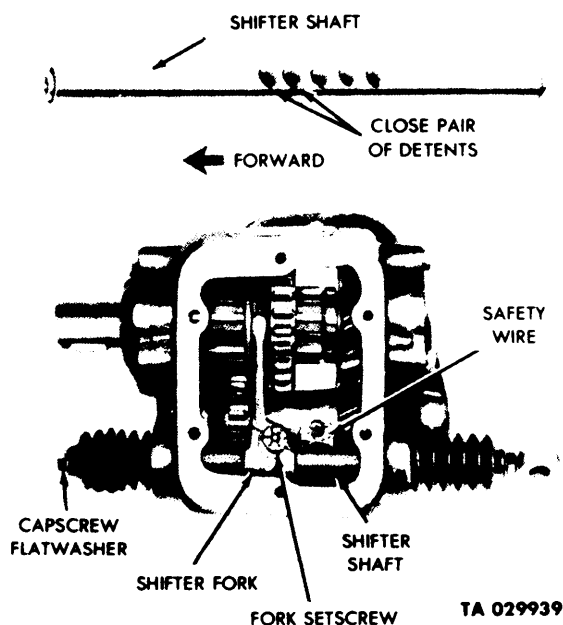

Figure 5-4. Removal of Shifter Shaft and Shifter Fork.
(1) Remove the safety wire and fork setscrew from the shifter fork. (See fig. 5-4.)
(2) Remove the shaft capscrew and flatwashers from the end of the shifter shaft. (See fig. 5-4.) Pull the shifter shaft rearward through the shifter fork. Remove the shifter fork and continue to slide the shifter shaft from the power takeoff case.
- j. Shifter shaft and shifter fork. (See fig. 5-4.)